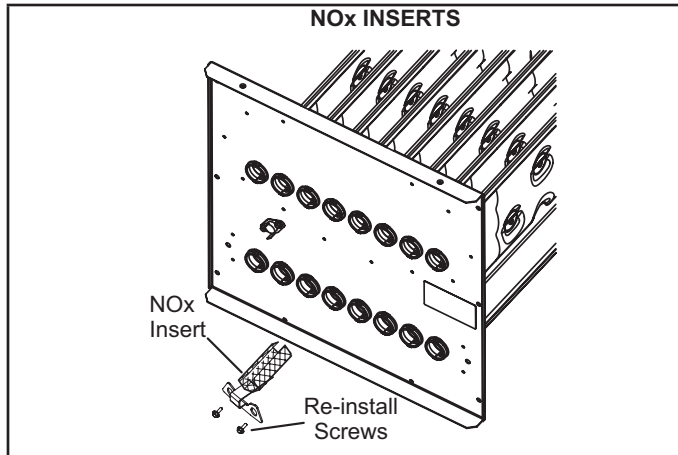

FIGURE 1
- b - Remove the screw which secures each of the NOx inserts to the clamshell. **Remove the NOx inserts and reinstall the screw. See figure 1**